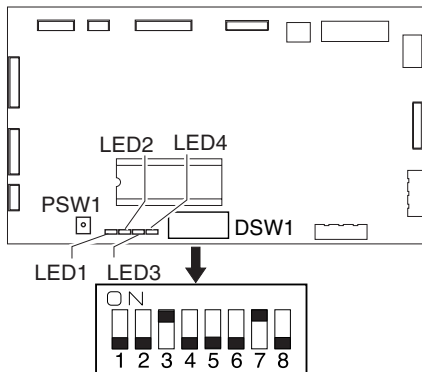

Figure 3-26
- Set the DIP switch (DSW1) on the ADF controller PCB as shown in Figure 3-26; then, press the push switch (PSW1) to start leading edge registration adjustment mode.
When leading edge registration adjustment mode starts, the LEDs (Figure 3-26) on the ADF controller PCB show the present setting. LED1 indicates the upper order while LED4 shows the lower order in 4-digit binary notation; the LEDs remain ON to indicate a positive value (+), while they flash to indicate a negative value (-).